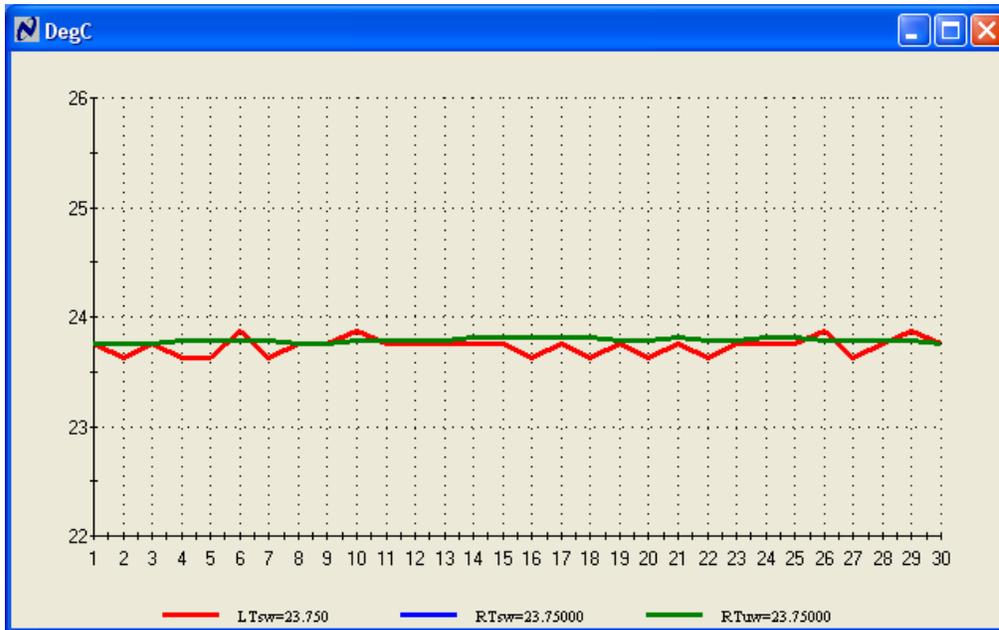

Figure 11
- If the user clicks on the Start Plot button, a graph will appear and will graph the temperature as shown in Figure 11 below.